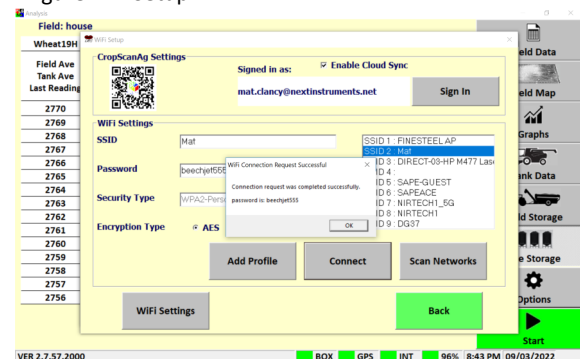

Figure 4.3. Wifi Hotspot Connection
- Press the **Connect** button and wait for a Wi-fi Connection Request notification as shown in figure 4.3.